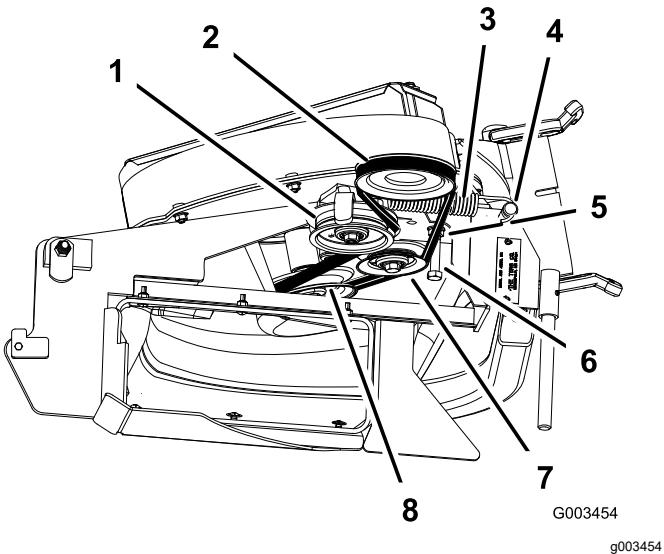

Figure 42
3. Loosen the belt guide bolt (Figure 42).
5. Install the new belt around the blower pulley (Figure 42).
7. Tighten the belt guide bolt (Figure 42).
9. Install the belt onto the spring-loaded idler pulley (Figure 42).